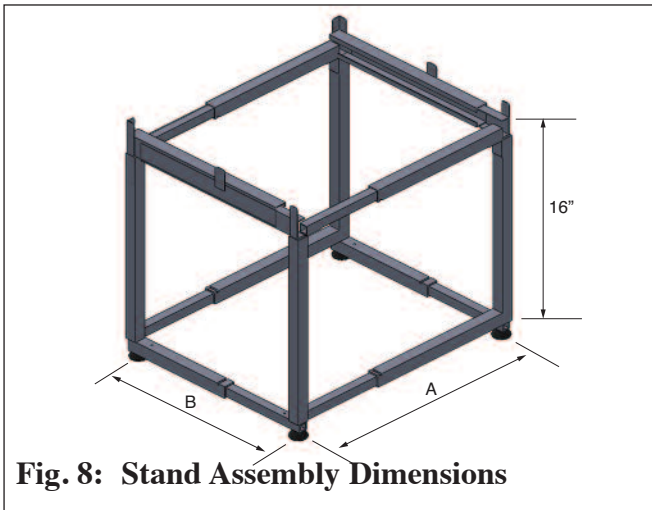

Fig. 8: Stand Assembly Dimensions
6. Use Table 1 to proper set the leg dimensions for the appropriate boiler. As shown in Fig. 8.